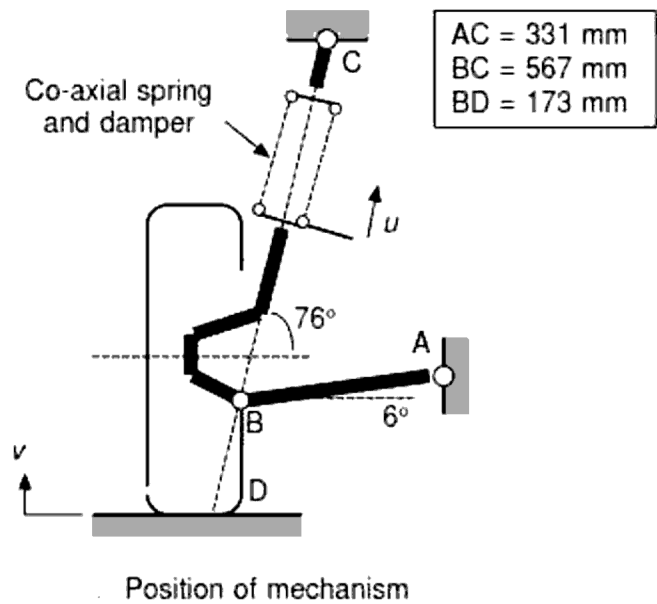

Fig. 3. MacPherson strut
- (c)** Consider the MacPherson strut given in Figure 3. By graphical approach **07**